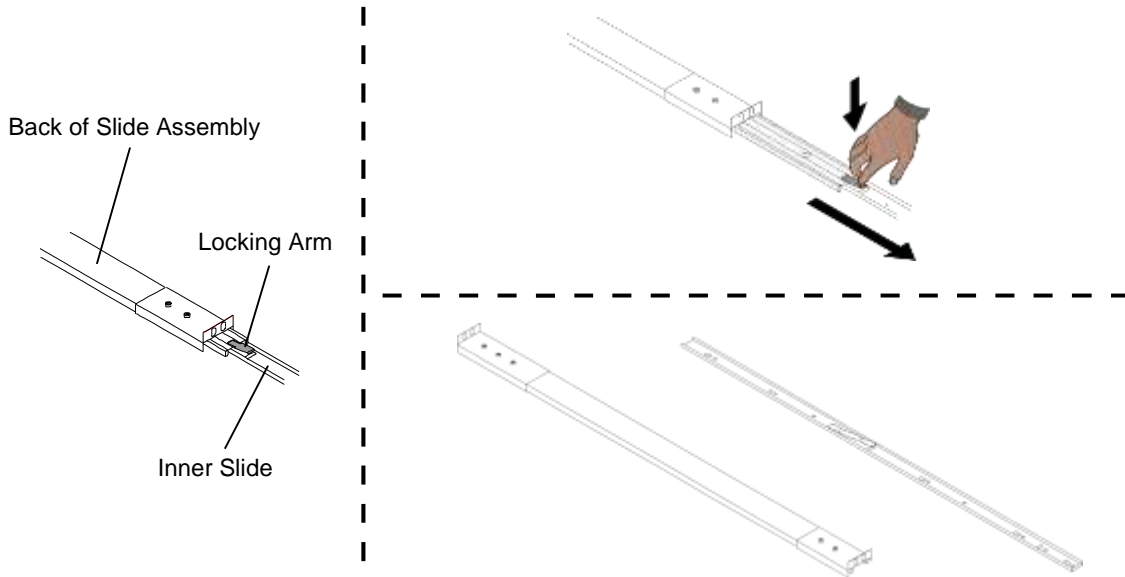

Figure 5-16 Removing the Inner Slide from the Slide Assembly
1. Place a slide assembly on a flat surface with the back of the slide assembly facing up. Pull out the inner slide from one of the slide assembly as far as it will go. The slide can be extended until the locking arm on the back of the slide emerges. Refer to Figure 5-16.
2. Press the locking arm to release the lock, and then pull the inner slide all of the way out. Refer to Figure 5-16.